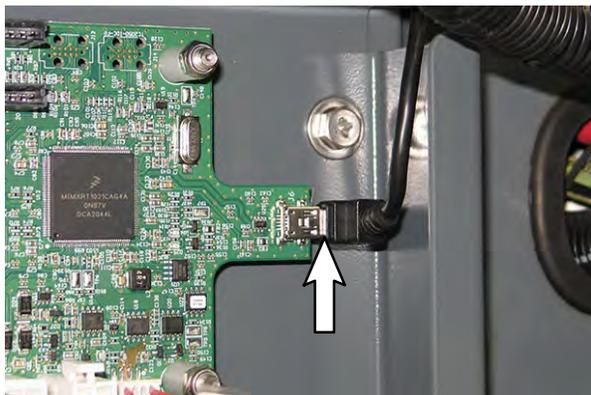

FIG. 28
18. Connect the USB harness (18) to the communication board (13) USB terminal. (Fig. 28)